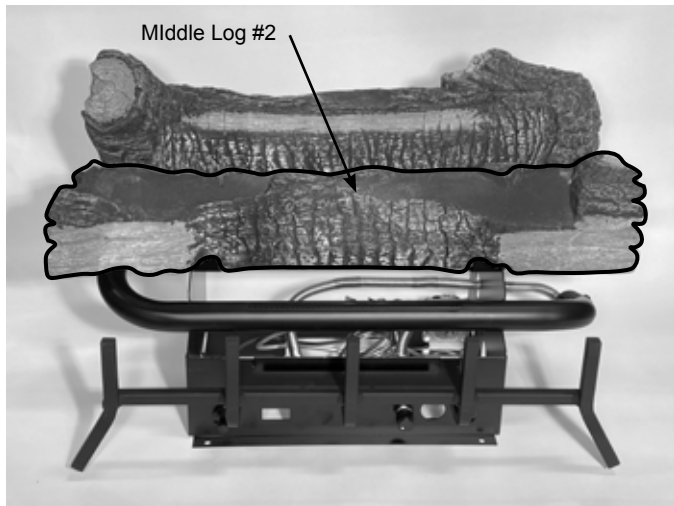

Figure 6.11 - Place Middle Log
2. Place Middle Log (#2) on middle support. Figure 6.11